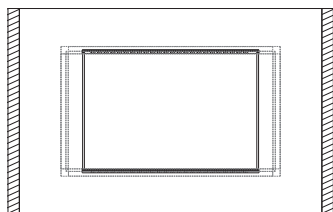

Figure 27
4. Fasten the concave bar brackets to the on-wall top and down installation bar slots. ( Figure 27 - 28 )